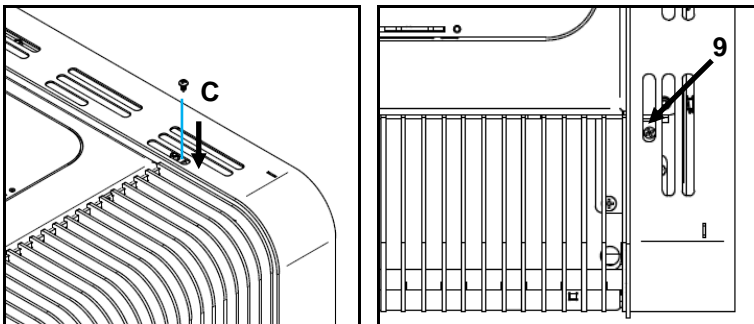

Figure 43 - Assembly of Aspen covers
i) Finally, screw C (DIN 7981 4,2x9,5), in hole 9, as shown in Figure 43.